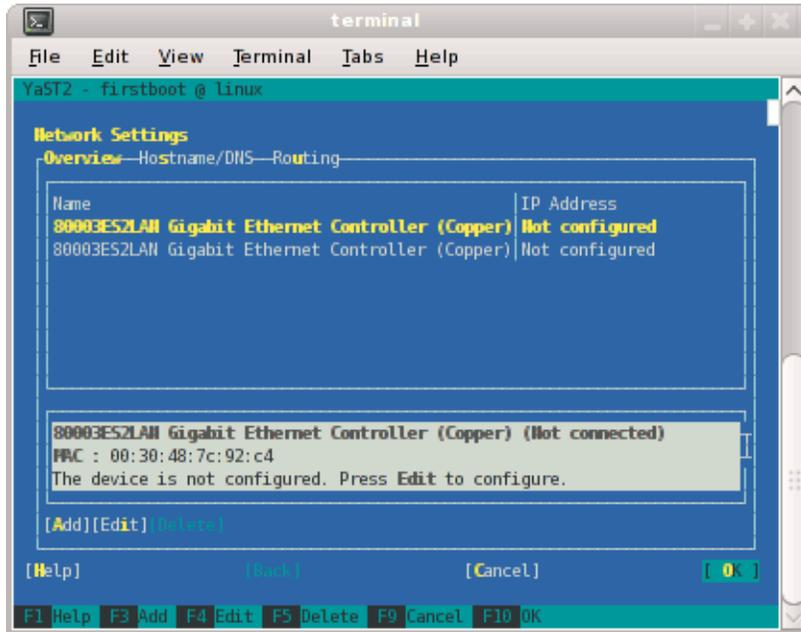

Figure 1-9 Network Settings Screen
7. From the **Network Settings** screen, as shown in Figure 1-9 on page 16, configure the first card under **Name** to establish the public network (sometimes called the house network) connection to your system management node (SMN). To do this, highlight the first card and select **Edit**.
Note: In SLES11, this screen is also where we will come back to in order to set up things like the default route and DNS. You can see all of those menu choices just to the right of **Overview** in Figure 1-9 on page 16.